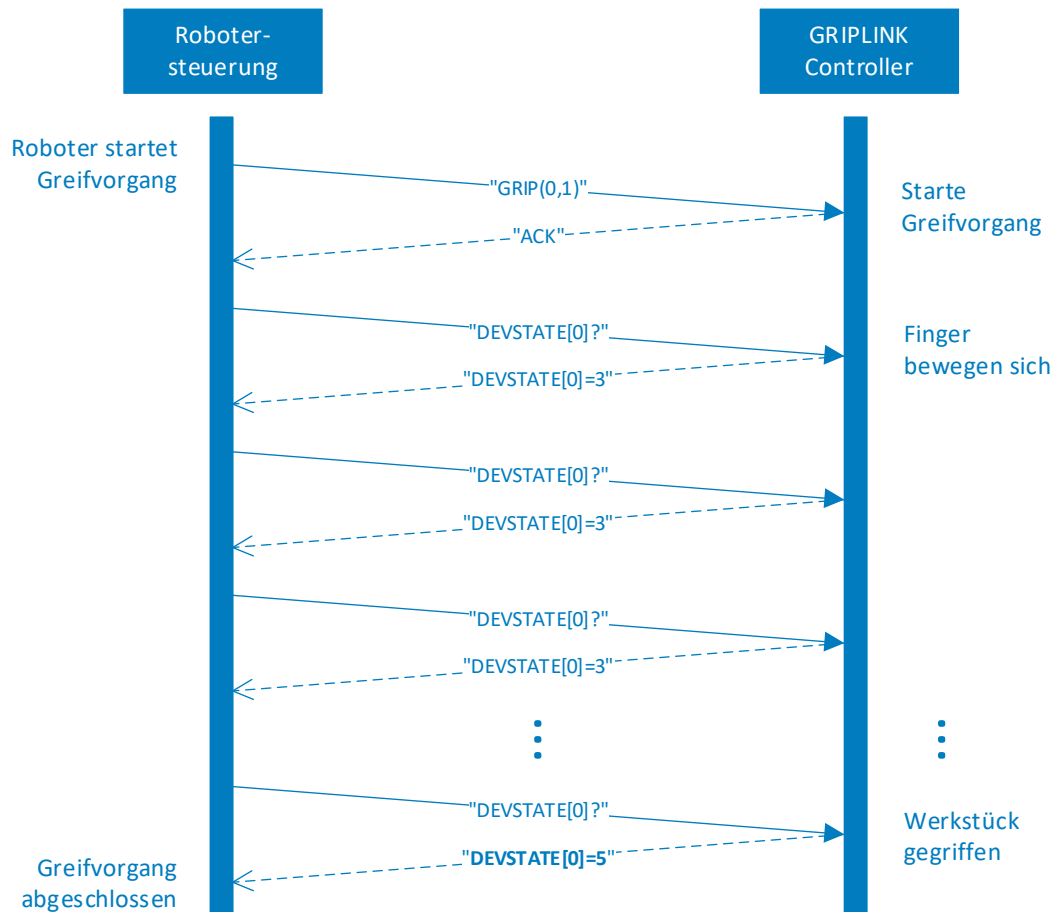

Figure 15 : Sequence diagram for a gripping process
A command is composed of the actual triggering of the action and the waiting for a change of state. This is shown in Figure 15 using the example of gripping a workpiece. The robot controller initiates the gripping command for the gripping module at device port 0 with parameter set 1 by sending the command word "GRIP(0,1)". The successful end of the gripping process is detected by cyclic polling of the device state with the command word "DEVSTATE[0]?" (device state changes from RELEASED (3) to HOLDING (5)). Note: If no